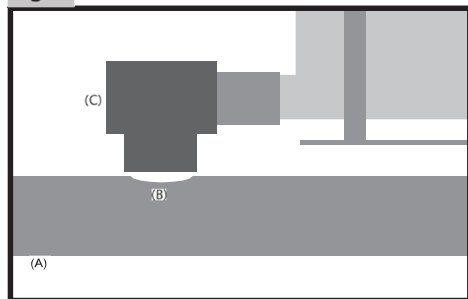

Fig. 6
One as to test first how much kilogram/ minute feed is transported through the feedtube. In accordance to these data, one has to calculate how much grams/ minute powder needs to be dosed. Then one needs to get te knob on the control panel (Fig. 6 (D)) in the right position through dosing en weighing, so that the desired dosing volume is dosed.
- The fuse in the control panel (Fig. 6 (E)). When this is burned, replace a new one (2,5A).
The controlpanel (and dosator) can be switched on and off with the switch (Fig. 6 (A)).
When the switch is switched on, the indication lamp lights (Fig. 6 (B)).
The dosator can dose manually, when the 'Manual'-button is pressed (Fig. 6 (C)). The sensor plug must then be taken out of the controlpanel (Fig. 6 (F)).
The dosing volume can be adjusted infinitely, with the knob (Fig. 6 (D)).